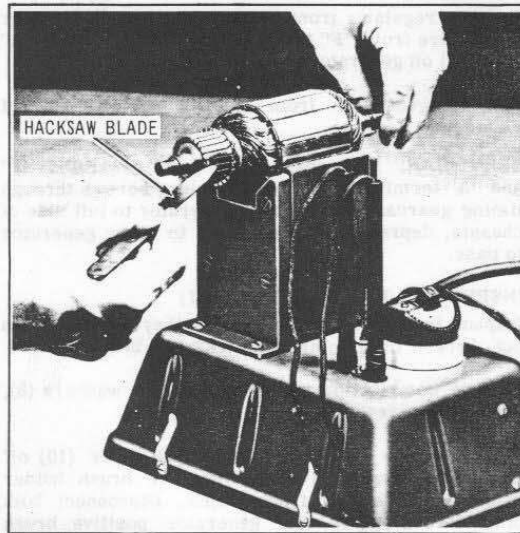

Figure 5E-5. Testing Armature for Open Circuit
**TEST FOR GROUND.** If growler with test leads is available, test by touching armature core with one test lead and commutator segments, individually, with the other. If this means of testing is not available, test with battery, ammeter and leads as used for testing field coils. Contact commutator segments with one test point and armature core with the other. If circuit is completed, armature is grounded. See Fig. 5E-3.
**TEST FOR SHORT.** Place armature in growler and hold piece of hacksaw blade parallel to and in loose contact with armature core. Turn growler on. Rotate armature slowly several turns. The hacksaw blade will be attracted to the armature core and will vibrate at one or more points if armature is shorted. See Fig. 5E-4.